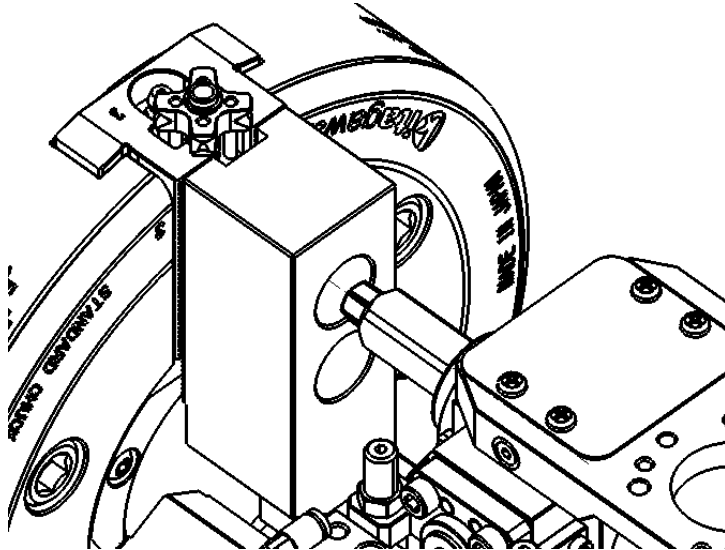
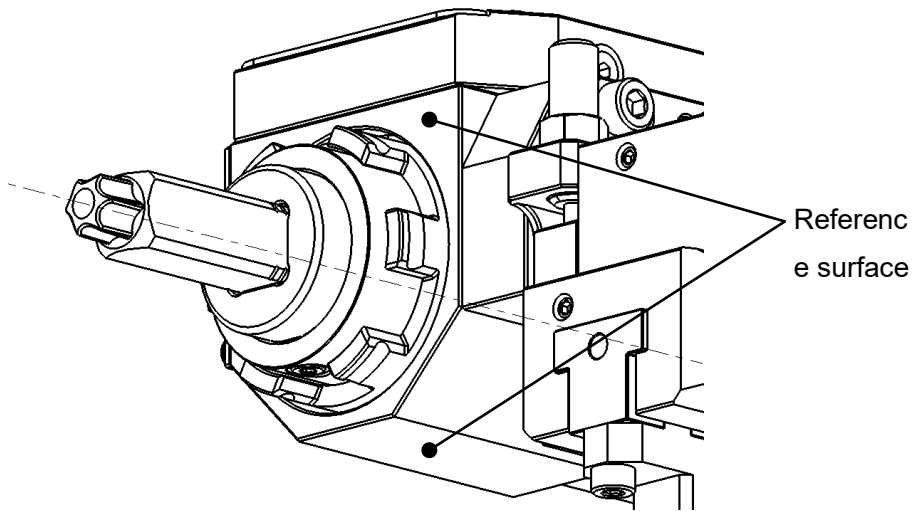

Figure 27
Figure 28
- ① Mount a jaw to the chuck and index it to the jaw change position.
- ② Adjust the posture of the BR-AJC end effector so that the rotation axis of the jaw mounting bolt and that of the BR-AJC end effector are coaxial. (Figure 27)
- We recommend removing the reaction lever for good visibility. (Refer to up to ② in 6.3.1. Wrench Replacement Procedure.)
- The adjustment can be made easily by creating user coordinates with reference to the jaw (refer to 5.3.1. Creating User Coordinates) and aligning the posture of the BR-AJC end effector with the user coordinates using the reference surface (Figure 28).